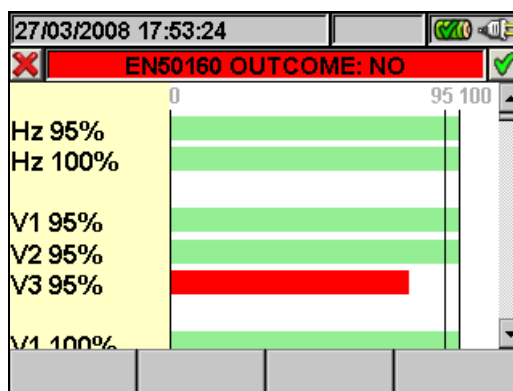

Fig. 111: EN50160 analysis histogram
- The **F2** key (or the **GRAPH** item on the display) accesses the page showing the histogram for the quantities in the table (Fig. 111).